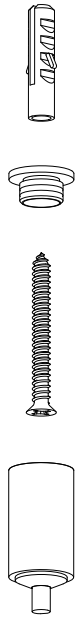

Fig. 12
1. Install the mounting bracket to the ceiling with anchor and screw, then screw the post onto the mounting bracket. (Fig. 12)